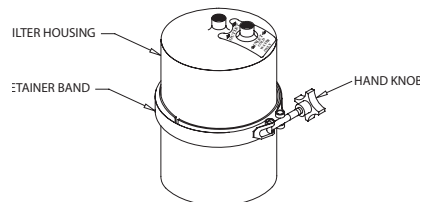

Figure 3
- Put the top and bottom filter housings together and place the retainer band on the flanges. Tighten the hand knob until it feels tight (see figure 3).